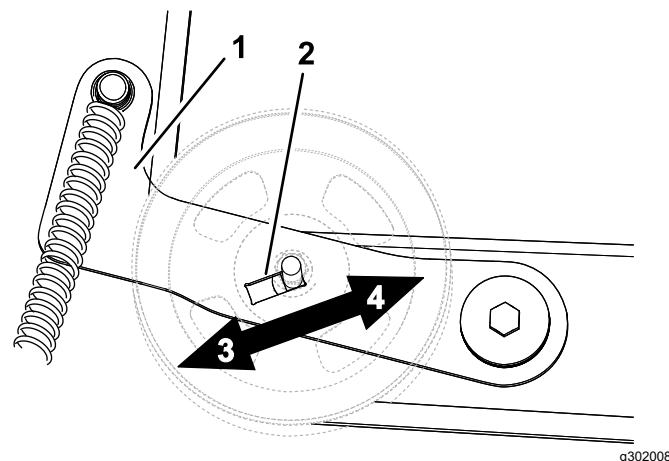

Figure 56
5. Adjust the pulley in the slot as needed (Figure 56).